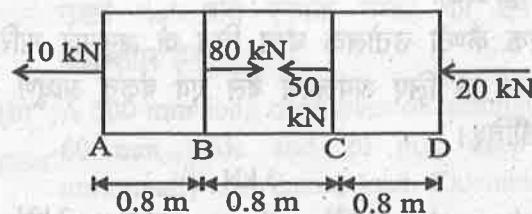

Fig. 1 (c)
- (c) A steel bar having cross sectional area of  $2000 \text{ mm}^2$  is subjected to axial forces shown in Fig. 1(c). Find the total elongation of the bar.